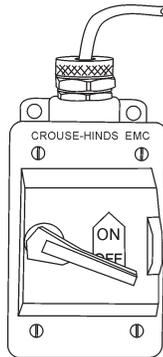

Figure 10. Power ON/OFF Switch (OFF)
## CONNECTING THE POWER (FIGURE 10)
1. Place the power **ON/OFF** switch (Figure 10) in the **OFF** position (down).